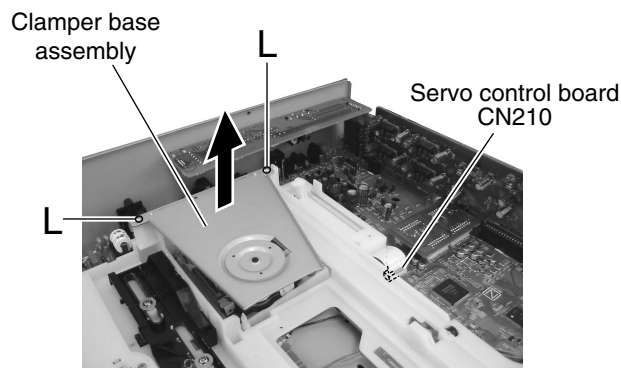

Fig.15
■ Removing the traverse mechanism assembly (See Fig.15 and 16)